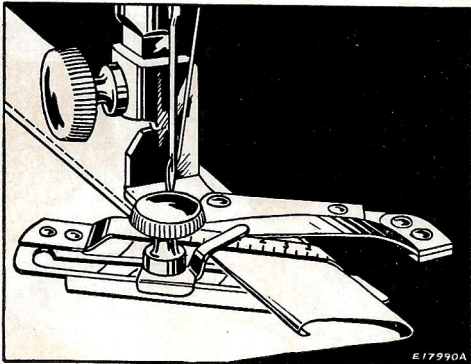

FIG. 43. SHOWING HOW ADJUSTABLE HEMMER IS USED FOR MAKING HEMS UP TO 15/16 INCH WIDE
- (3) Loosen the thumb screw on the hemmer and move the scale until the pointer registers with the number of the desired width of hem, No. 1 indicating the narrowest hem and No. 8, the widest, then tighten the thumb screw.
- (4) Place the cloth in the hemmer and draw it back and forth until the hem is formed, as shown in Fig. 43.
- (5) Draw the end of the hem back under the needle, lower the presser bar and start to sew.
- (6) Guide sufficient cloth into the hemmer to turn the hem properly.